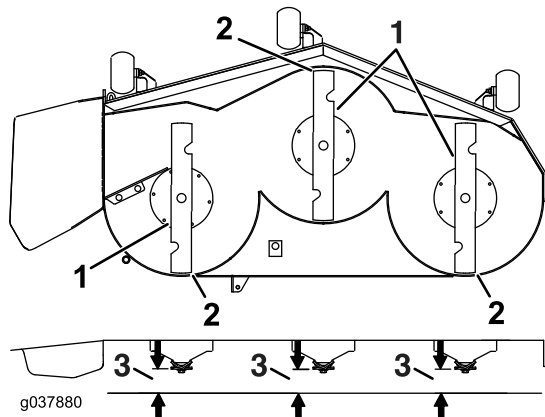

Figure 83
- Check the front-to-rear blade level (Figure 83). Ensure the front blade tip is lower than the rear blade tip as shown in the block height and rake table. If adjustment is needed, continue with this procedure.